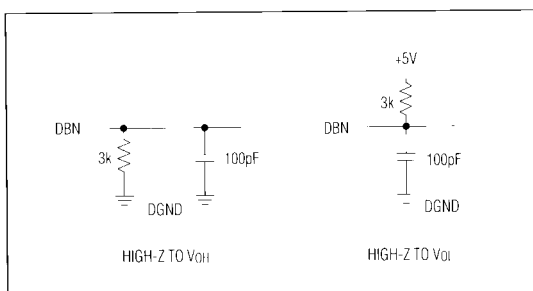

Figure 3. Load Circuits for Access Time Test ( $t_{13}$ )
**Note 7:** t11, the time required for an output to cross 0.8V or 2.4V, is measured with the load circuits of Figure 3.